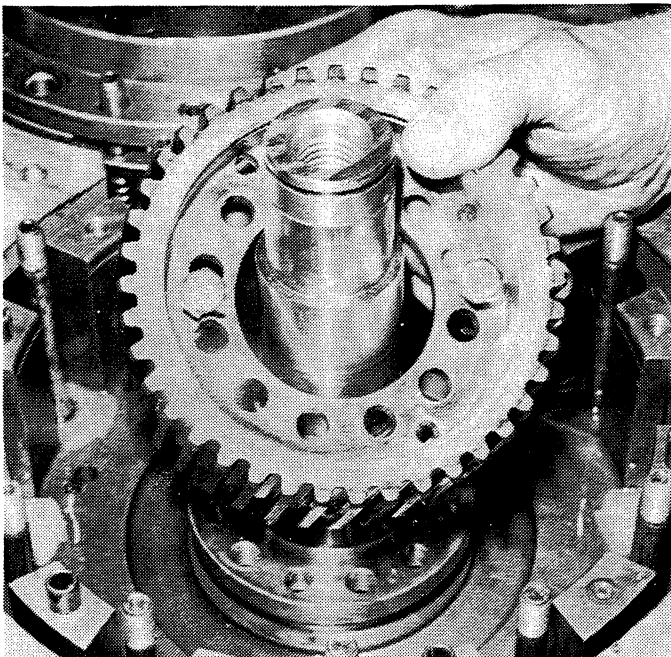

Figure 6-19. Removing or Installing Clutch Hub.
11. Use two 5/16-18 x 2 in. screws as pushers to remove the clutch hub. See Figure 6-19.